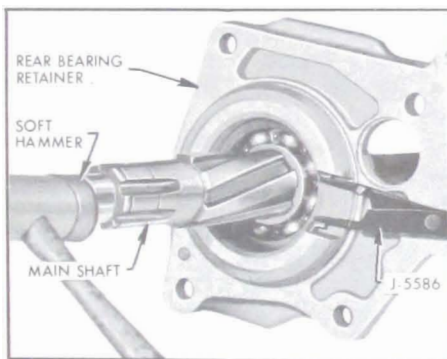

Figure 4-89—Spreading Rear Bearing Snap Ring
28. Spread rear bearing retainer snap ring and with a soft hammer, tap mainshaft out of retainer. See Figure 4-89.